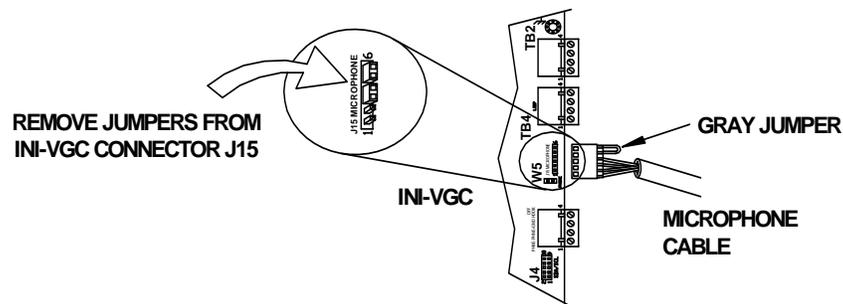

Figure 2.6.6.1 INI-VGC Wiring Connections
**NOTE:** Be sure to position the connector so that the gray jumper spans the top two pins on the INI-VGC J15 (Pins 6 and 5 counting from the top down). See Figure 2.6.6.1 for details.